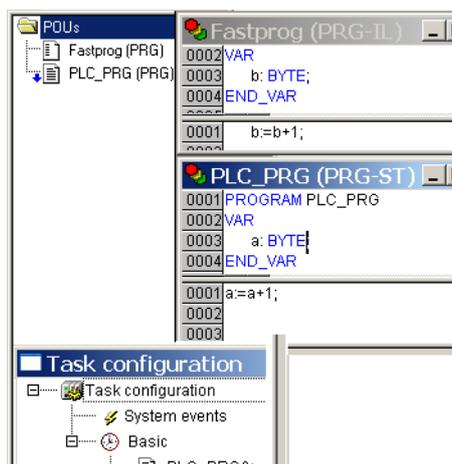

Figure 74: PLC and Task configuration
- ▶ Create the POU’s “PLC_PRG” and “Fastprog” as shown in Figure 74.